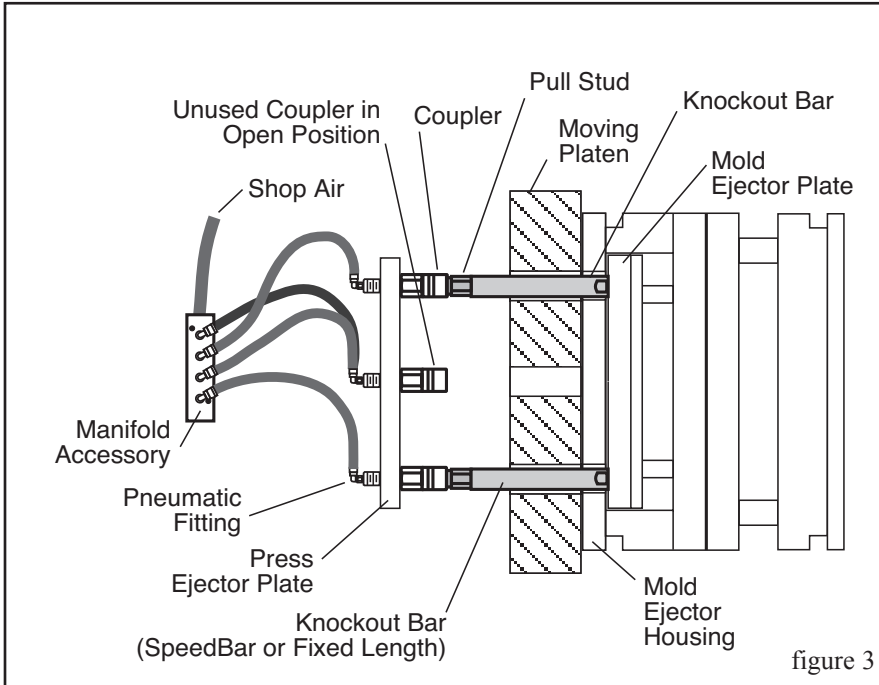

figure 3
2. Install pneumatic fitting to the coupler per figure 3.